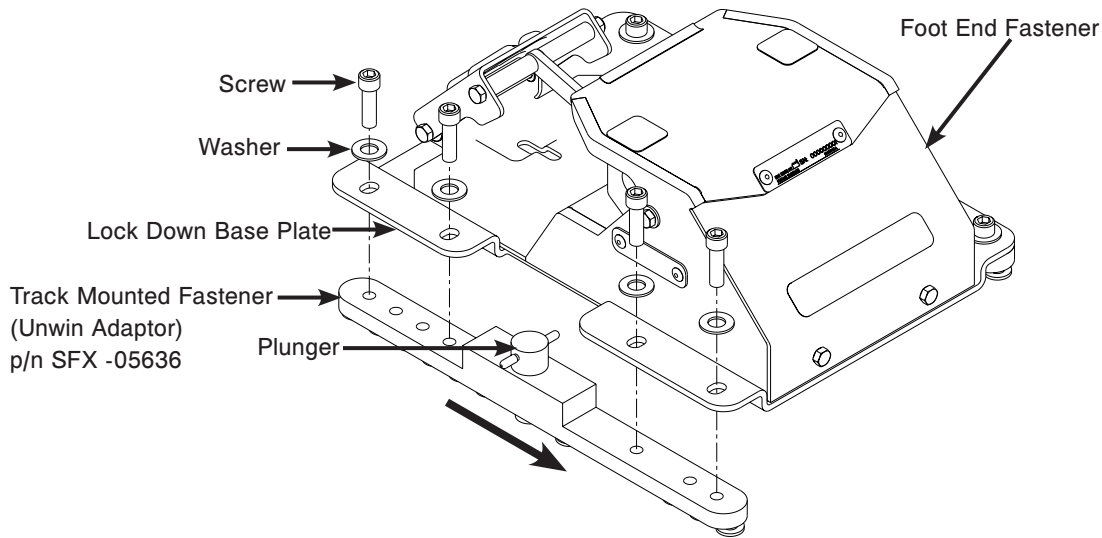

Figure 6: Assemble the Foot End Fastener
1. Position the eight washers between the eight screws (four on each side) and the foot end fastener lock down base plate as shown in Figure 6.
Note: Position the track mounted fastener (Unwin adaptor) under the lock down base plate with the black arrow on the Unwin adaptor facing toward the head end of the ambulance as shown in Figure 6.
2. Loosely tighten the screws to attach the track mounted fastener (Unwin adaptor) to the foot end fastener lock down base plate as shown in Figure 6.